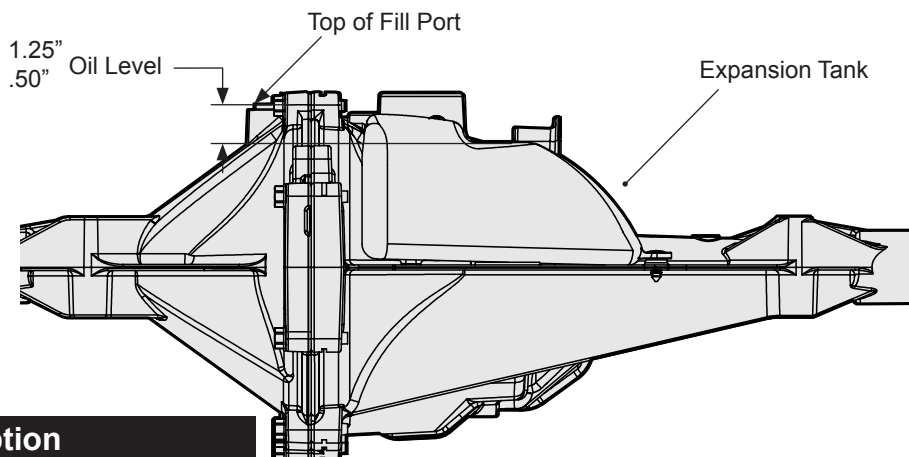

Figure 3, Expansion Tank
2. Check oil level in accordance with Figure 3 Page 10.
Certain situations may require additional fluid to be added or even replaced. Refer to Page 10, Figure 3 and pages 4 and 5 for the proper fill port location.
9. Fill the transaxle at the oil fill port according to Figure 3.